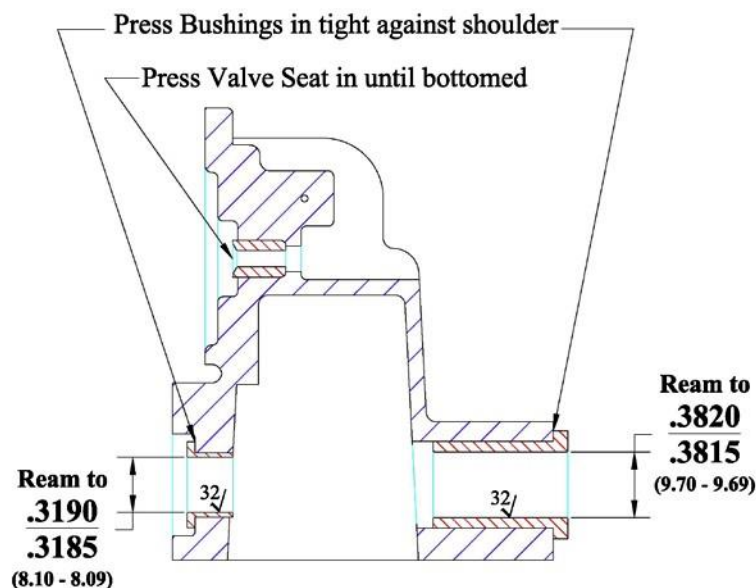

Figure 2
- b) Press the new bushing into place with 2550946 mandrel until the bushing shoulder is tight against body as shown in Figure 2. Replacement bushing must provide a .0005 - .002 inch (.0127 - .0510 mm) press fit. 2539179-1HT, -2HT & 2539533-1HT, -2HT are available if standard size 2539179HT & 2539533HT do not provide a suitable press fit.
- c) Using step reamer 2550140, ream the bushings to the final dimensions shown in Figure 2.
- b) Press the new 2523280HT valve seat into cover assembly using a 3/8 inch diameter socket adapter and an arbor press until fully seated as shown in Figure 2 (special tooling for this operation is available - please contact HYE-Tech for more information). Replacement valve seat must provide a .0005 - .0020 inch (.0127 - .0510 mm) press fit. 2523281HT, 2523282HT & 2523283HT are available if standard size 2523280HT does not provide a suitable press fit.